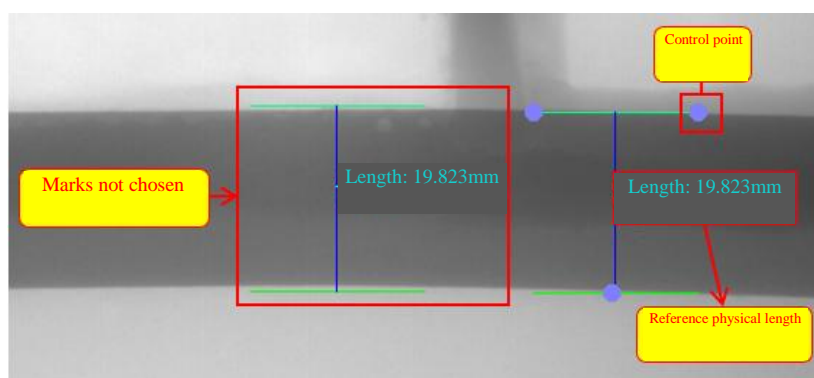

Fig. V-44 Spacing Measurement Mark
1) Click the toolbar icon  or "Tool (T)" ->"Measurement" ->"Spacing" in the menu bar to enable the spacing measurement.
2) Move the mouse to the position to be measured, click the mouse for 3 times randomly near this position, and 3 control points appear in sequence. finally, when clicking for the 3rd time, the spacing mark is automatically made, meanwhile, the physical length of this segment distance is displayed beside the line segment (3 points clicked shall not be on the same line or at the same position (see Fig. V-44).